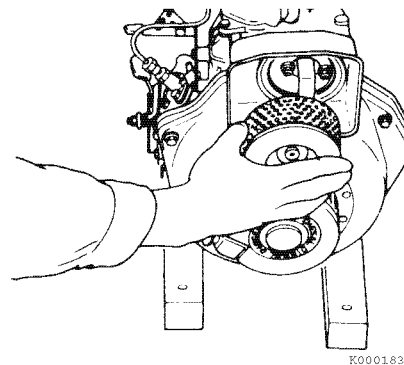

Figure 6-36
10. Remove the filter element (**Figure 6-36**).